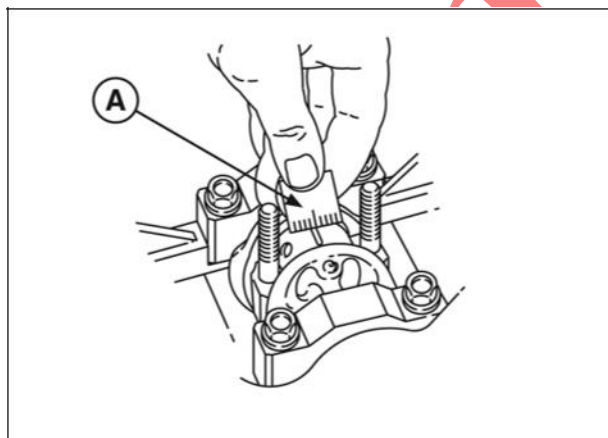

Figure 9
4. Remove the connecting rod cap. Measure the plastigage at its widest point (A, Figure 9). If the clearance is not within specification, replace the bearings.